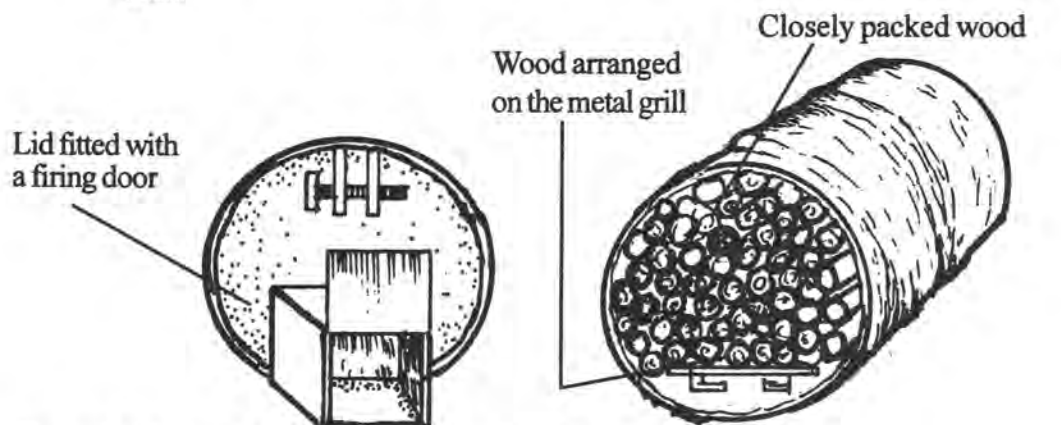

Figure 4.3: Drum kiln fully stacked with wood
- Closely pack the seasoned/dried wood onto the metal grill in the drum (Figure 4.3) until it is fully loaded.